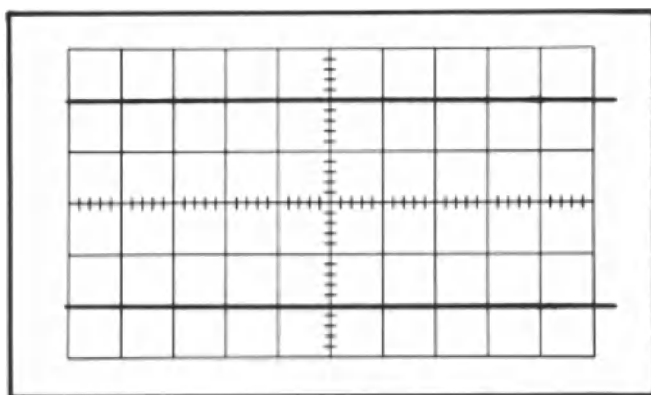

Fig. 7-8. Typical display showing correct gain adjustment.
d. CHECK—For a display 4 cm in amplitude (see Fig. 7-8).
- CHECK—That display amplitude is exactly 4 cm (see Fig. 7-8). Use the Channel 1 POSITION control to align the display with the graticule lines for measuring purposes.
d. CHECK—That the display is exactly 4 cm in amplitude (see Fig. 7-8).